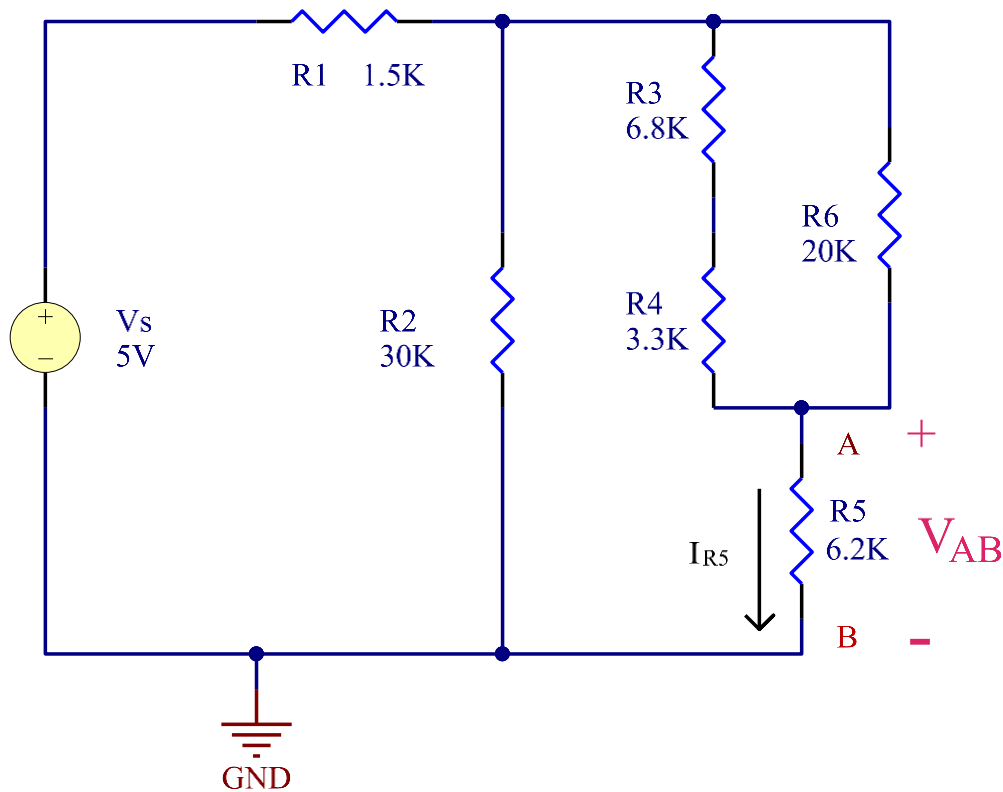

Figure 1: Not So Simple resistor circuit.
b) Build the circuit shown in Figure 1.
6. Refer to Figure 1. Give the currents through R_1 , R_2 , R_3 , R_5 and R_6 when $V_s = 10V$ and $R_1 = R_2 = R_3 = R_4 = R_5 = R_6 = 1K\Omega$.